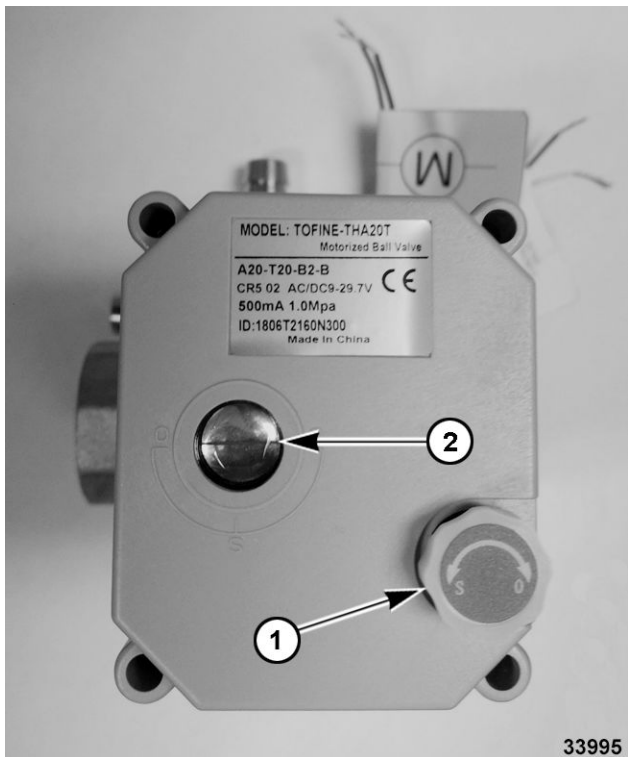

Fig. 36
- B. Pull knob (1, Fig. 36) out and turn while watching indicator window. Verify red line inside indicator window (2, Fig. 36) is horizontal (open position) with valve body.